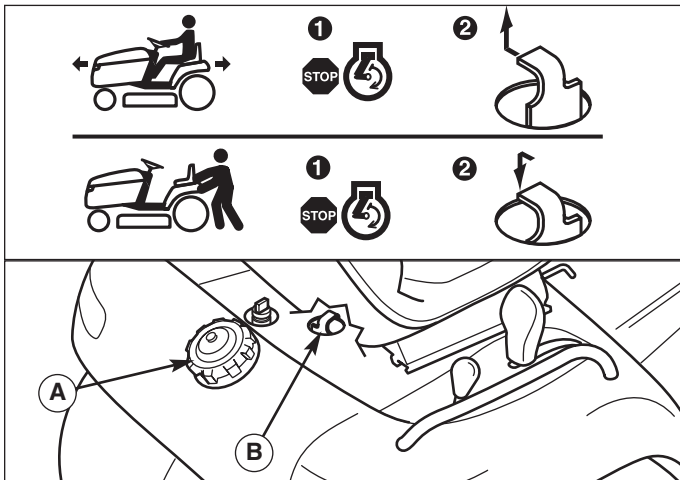

Figure 4. Transmission Release Lever & Fuel Tank
1. Remove the fuel cap (A, Figure 4).
2. Push the transmission release (B, Figure 4) forward and down to lock into the released position. The tractor can now be pushed by hand.